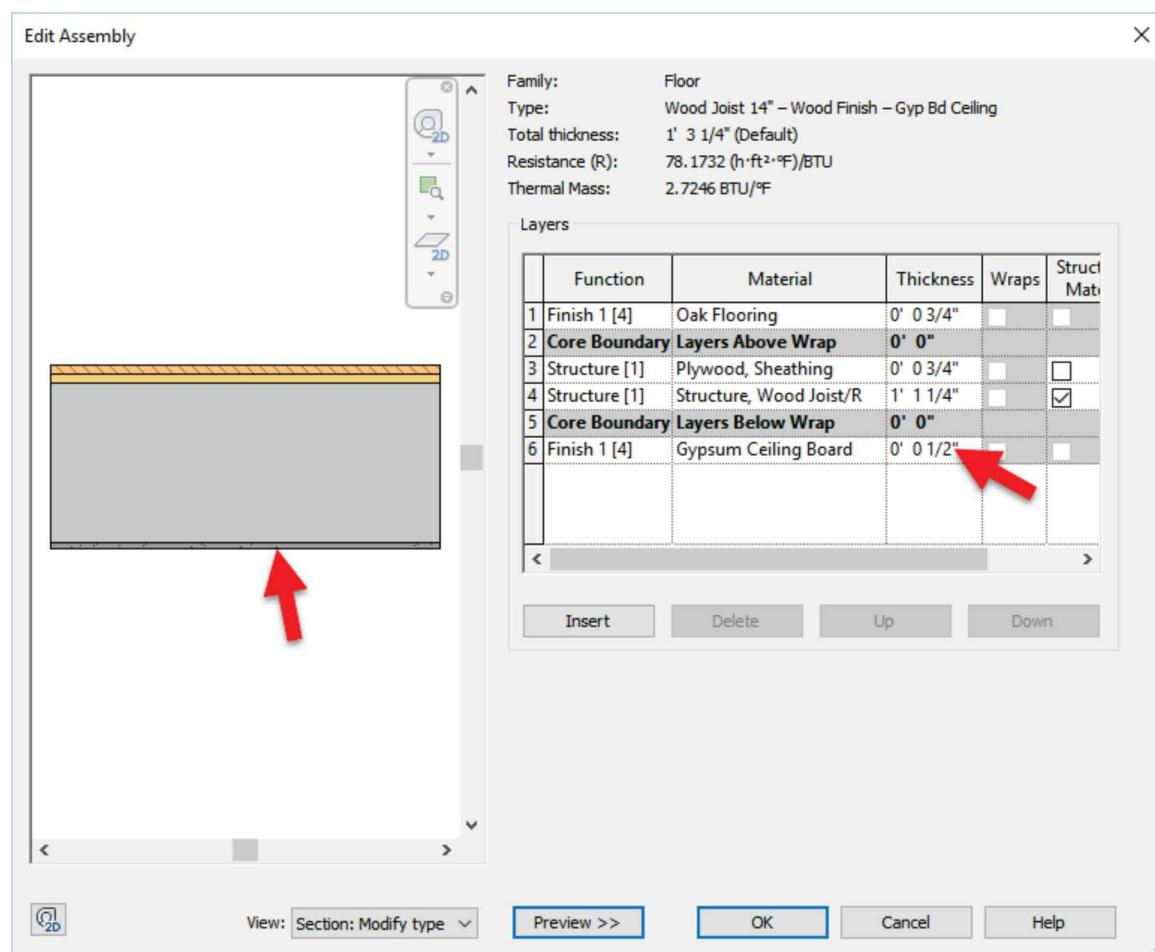

FIGURE 9-2.16 Floor system modified to include ceiling
45. Edit the floor structure via **Type Properties** (Figure 9-2.16).